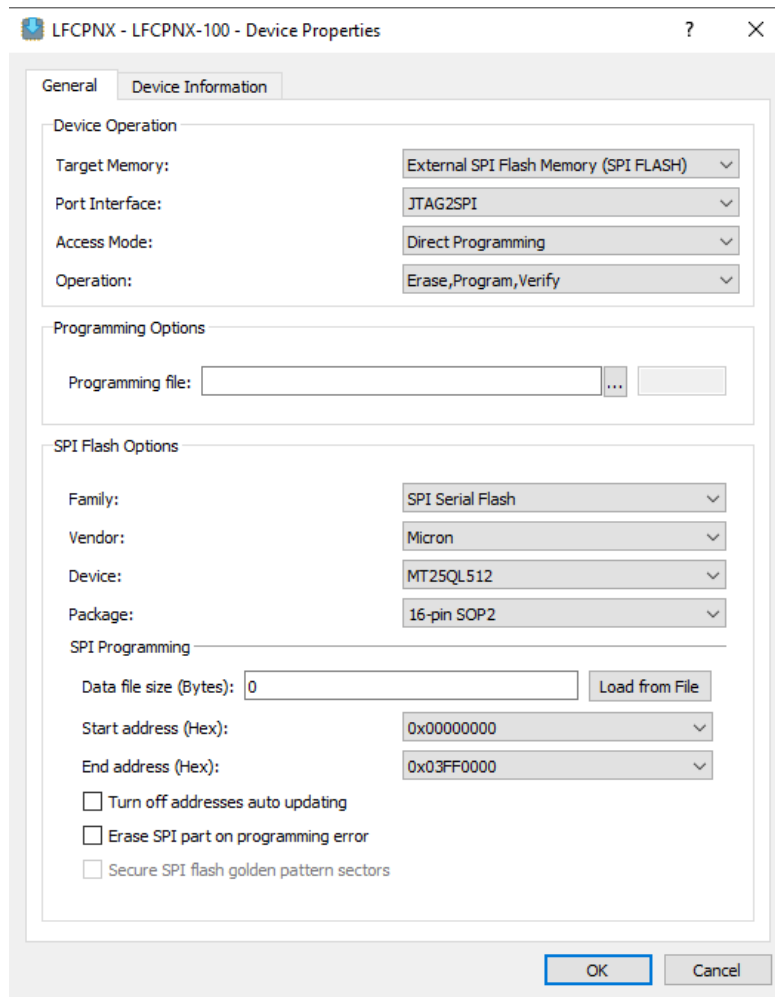

Figure 11. Device Properties Dialog for SPI Flash Programming Setting
5. Click on **Fast Configuration** from the **Operation** column figure 10. The **Device Properties** dialog pops up figure 11 Change the **Target Memory** settings using the drop-down menu, and then you can see the device properties settings exactly as those shown in figure 11
6. Browse to choose the programming file “LFCPNX_100_PCIe_Basic_Demo”.bit figure 11